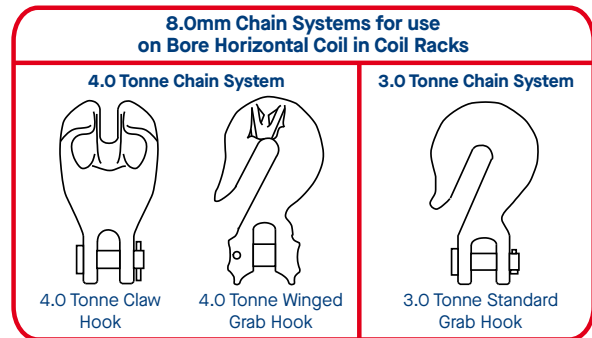

Fig.4.1: Lashing Capacities of Chain Systems
- Claw Hooks and Winged Grab Hooks provide a 4.0 tonne chain system. (Fig.4.1)
- Standard Grab Hooks generate a bending effect in the chain that de-rates the chain capacity by 25% to a 3.0 tonne chain system. (Fig.4.1)